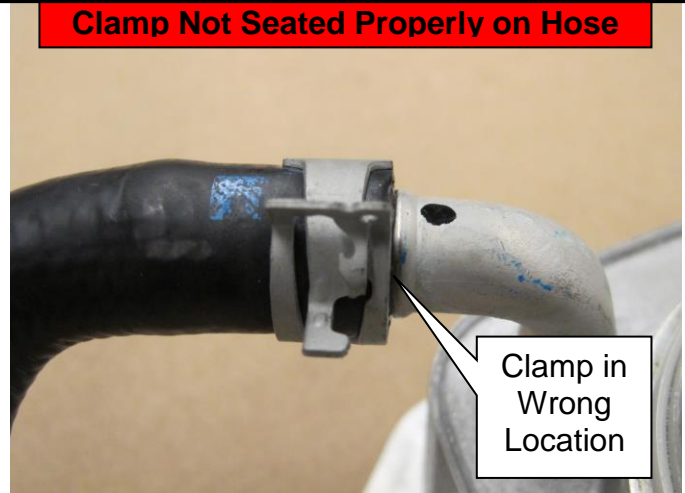

Figure 13
- Clamp not seated properly on hose (Too close to the end of the hose) (Figure 13).